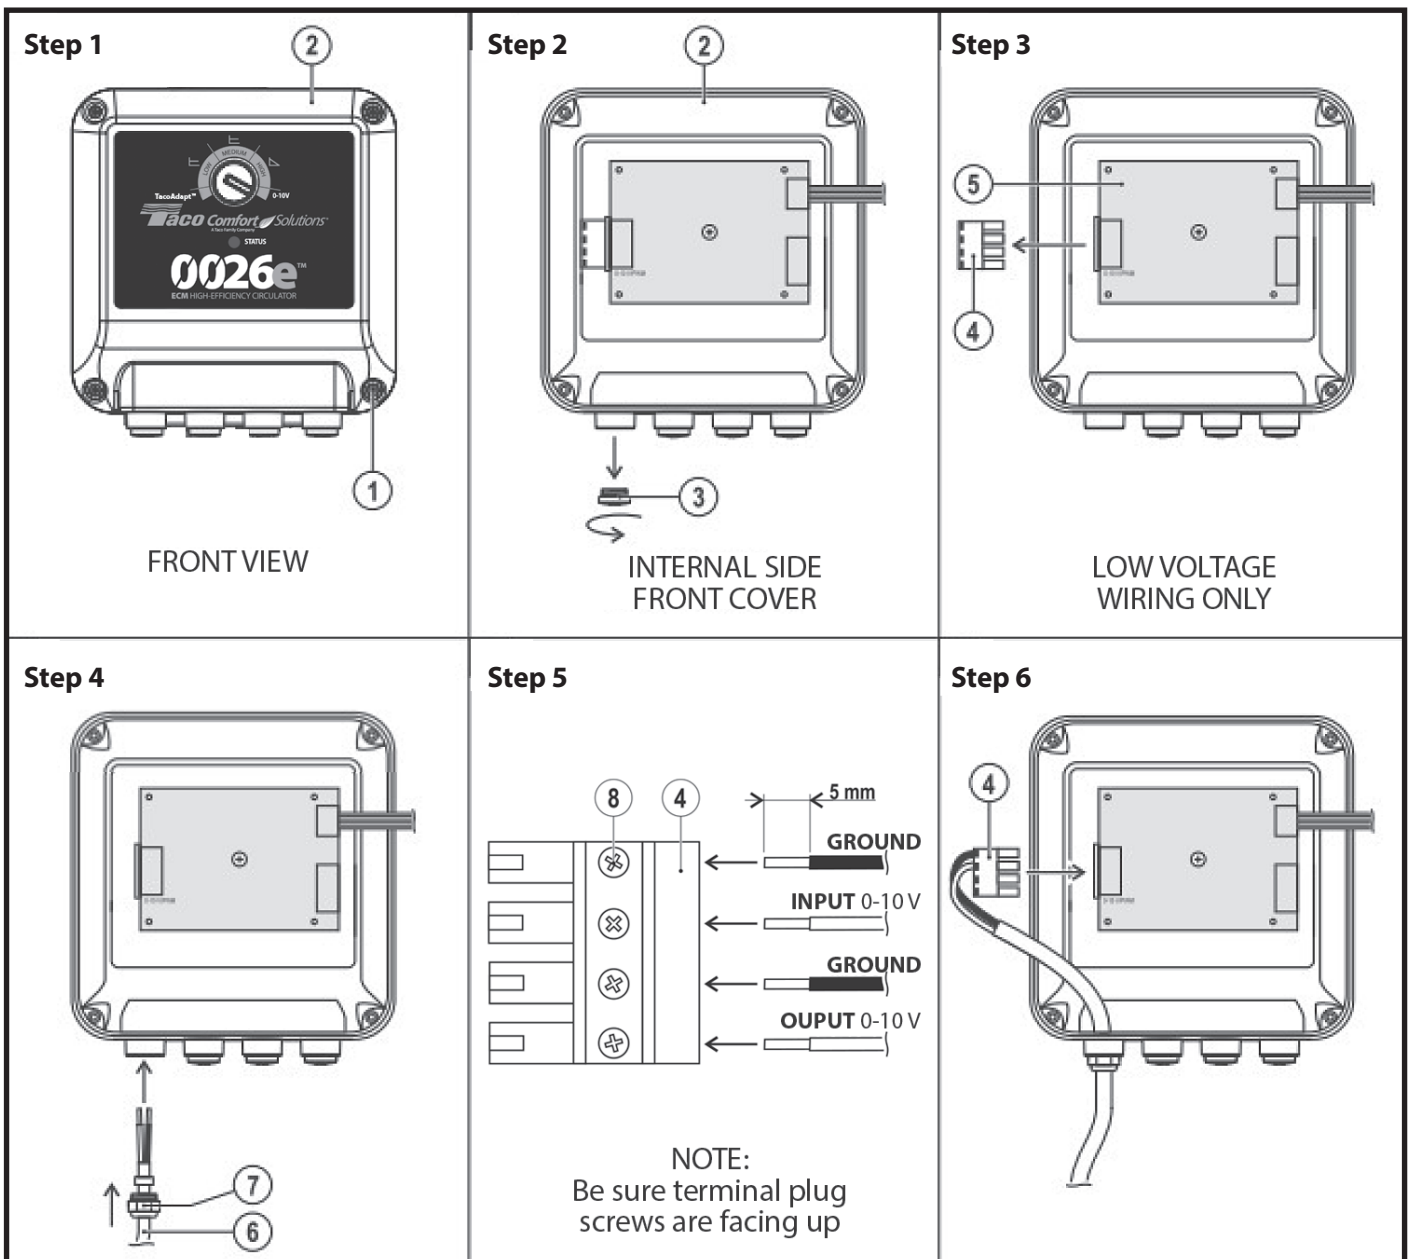

Figure 8 - External connection for 0-10V DC / PWM signal
1. Remove the four screws (Figure 8 - Ref. 1) fixing the motor cover (Figure 8 - Ref. 2).
2. Unscrew a signal output cap (Figure 8 - Ref. 3).
3. Remove the green terminal plug (Figure 8 - Ref. 4) from the electronic board (Figure 8 - Ref. 5).
4. Insert the cable (Figure 8 - Ref. 6) in the cable gland M12x1.5 (Figure 8 - Ref. 7) [Not Supplied] and screw it to the cover.
5. Strip (Minimum .25") the ends of the wires, insert them into the connector (Figure 8 - Ref. 4) and fix them with screws (Figure 8 - Ref. 8).